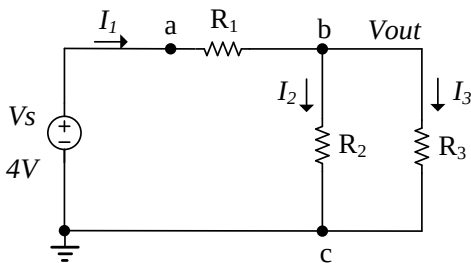
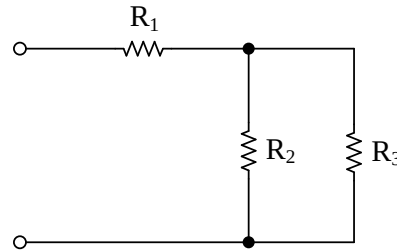
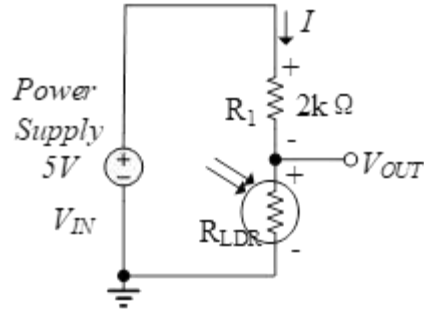

Figure 1
Figure 2
Figure 5
1. Figure 1(Figure 5@ prelab) is a voltage divider that produces an output voltage (V_{out}) that is a fraction of its input voltage (V_{in}). In this circuit, the voltage divider ratio $K = \frac{V_{out}}{V_{in}}$ is equal to the resistance ratio $\frac{R_2 // R_3}{R_1 + R_2 // R_3}$. Using these ratios $V_{out} = V_{in} \times \frac{R_2 // R_3}{R_1 + R_2 // R_3}$. Note that in figure 2, the reference voltage is ground. For the circuit shown in Figure 2, $R_1 = 1.5k\Omega$, $R_2 = R_3 = 1k\Omega$.
2. Use the DMM to measure the resistance of R_1 , R_2 and R_3 . Then connect R_1 , R_2 and R_3 as shown in Figure 1 on the breadboard, and measure the equivalent resistance R_{eq} . Record the nominal, measured and deviation values in Table 5. (18pts, 1pt each)
3. Build the circuit shown in Figure1 on the breadboard.
6. We’ve already build voltage dividers with series resistors, we can also use th potentiometer’s variable resistance to construct a variable voltage divider. Replace the resistors in Figure 2 with a W103 potentiometer to achieve the same function as a voltage divider. Note that for any given position of the ball, the length of wire between the positive supply terminal and the ball serves as R_4 in the voltage divider equation, and the length of wire between the ball and the grounded terminal serves as R_5 . Therefore, by moving the ball back and forth, we change the values of R_4 and R_5 , and hence the output voltage.
3. Construct the circuit of Figure 5 using $V_{\text{in}}=5\text{V}$ and $R=2\text{k}\Omega$. Using the voltage divider rule, determine the expected value for the voltage across R under normal lighting Dark and Bright conditions.